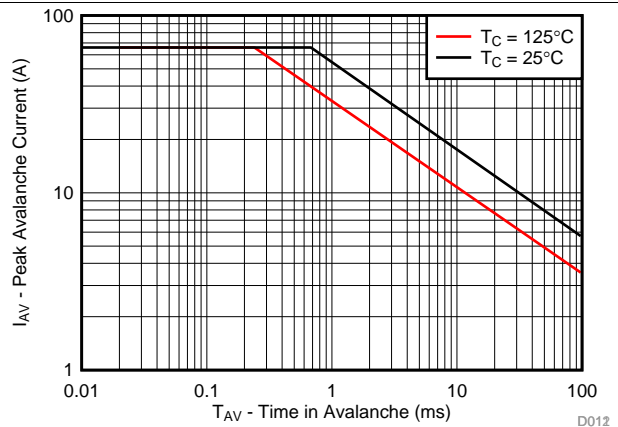

Figure 11. Single Pulse Unclamped Inductive Switching
• Changed <a href="#">Figure 11</a> X-axis values .....	5